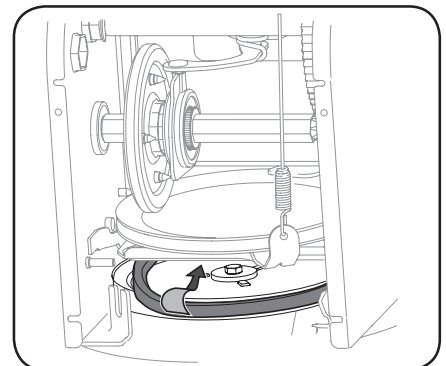

Figure 4-19
8. Remove belt from around auger pulley, and slip it between support bracket and auger pulley. See Figure 4-19.